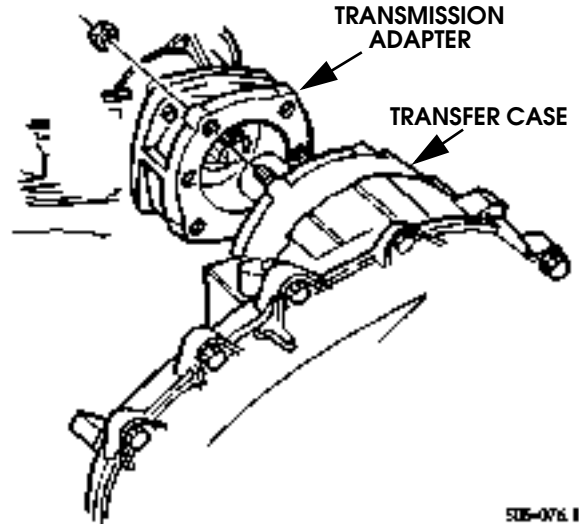

Figure 5-81: Separating Transfer Case From Transmission
10. Remove nuts attaching transfer case to transmission adapter (Figure 5-81).
11. Slide transfer case rearward and remove it from under vehicle (Figure 5-81).